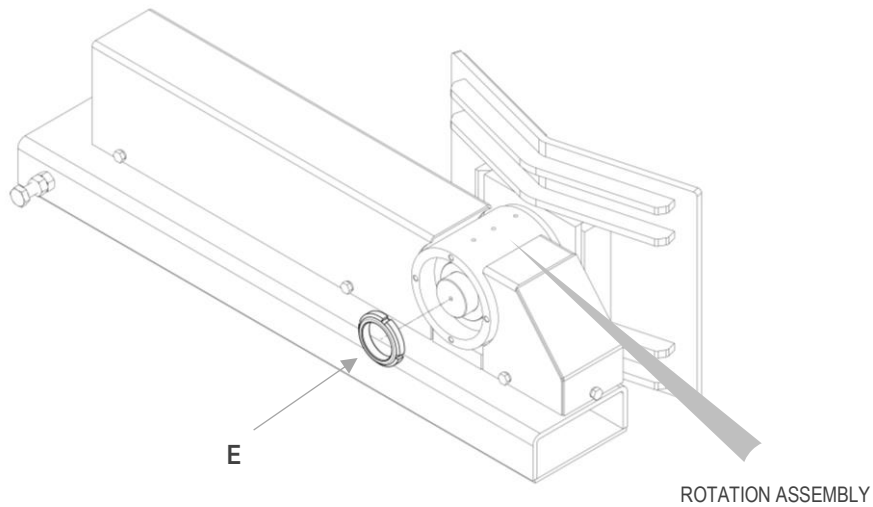

Figure 21
5. After fitting the pad, tighten the ring nut **E** (see Figure 21)